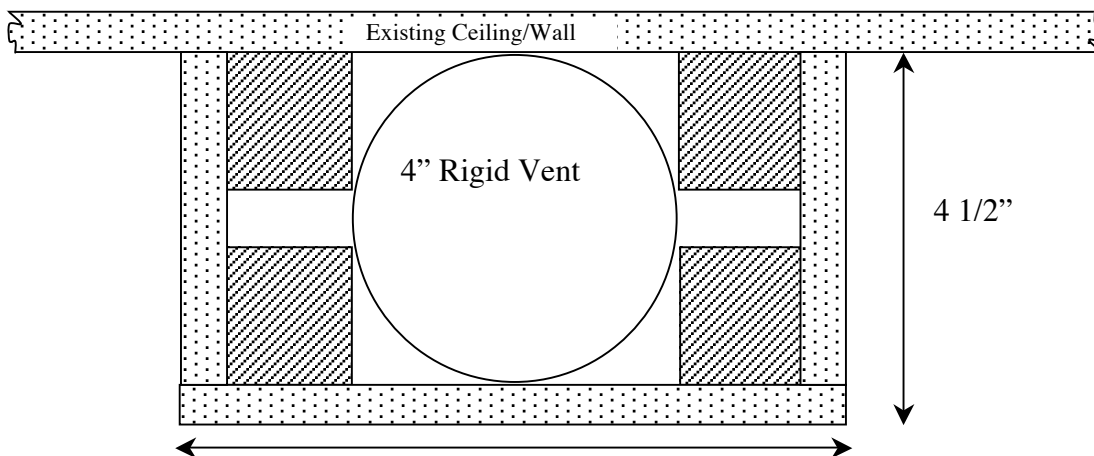

Figure 1
- i. Boxed Soffit (see Figure 1) or metal strapping in attic common area